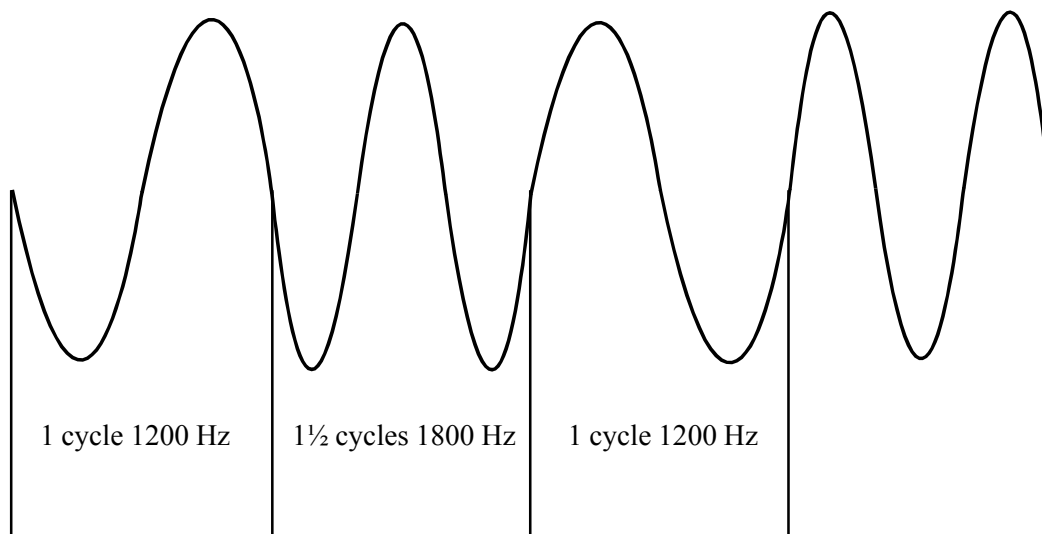

Figure 1
**Transmit Deviation:** Press and hold the **Enter** button while turning on the radio. This will put the unit into the Self Test mode. Press the soft key to select "MSK". The 3012 will send alternating 1's and 0's until the **Exit** soft key is pressed. Adjust **RV3** for 60% of rated system deviation. Compare the service monitor display with the waveforms in figure 1. The transmitted signal should resemble the sine waves as shown. If excessive distortion is occurring, you may need to find a different tx audio injection point in the radio. Press the **Exit** soft key once to return to self test mode.